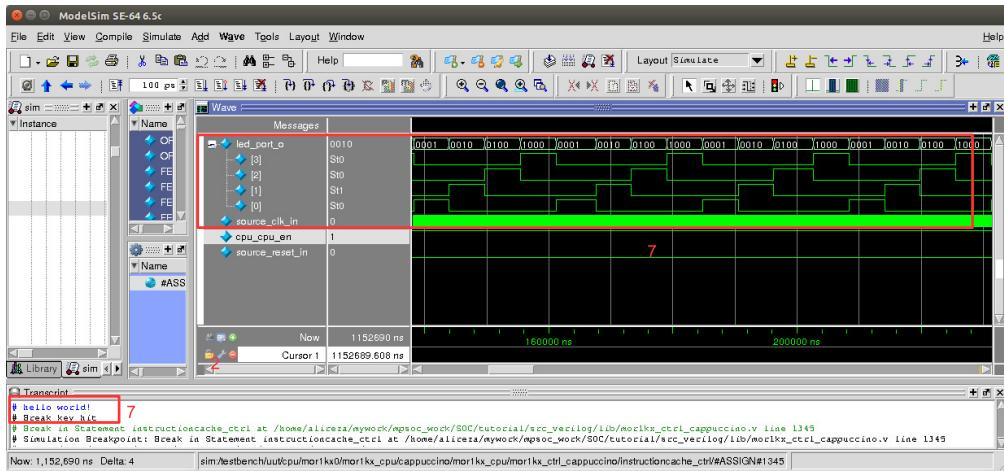

Figure 5.18: Modelsim output snapshot.
7. Figure 5.18 shows the Modelsim simulation output snapshot. You must see the "hello world!" expression in the Modelsim terminal. The LEDs outputs also must be seen as cyclic shift to the left of a one-hot code in the Signal Waveform Window.